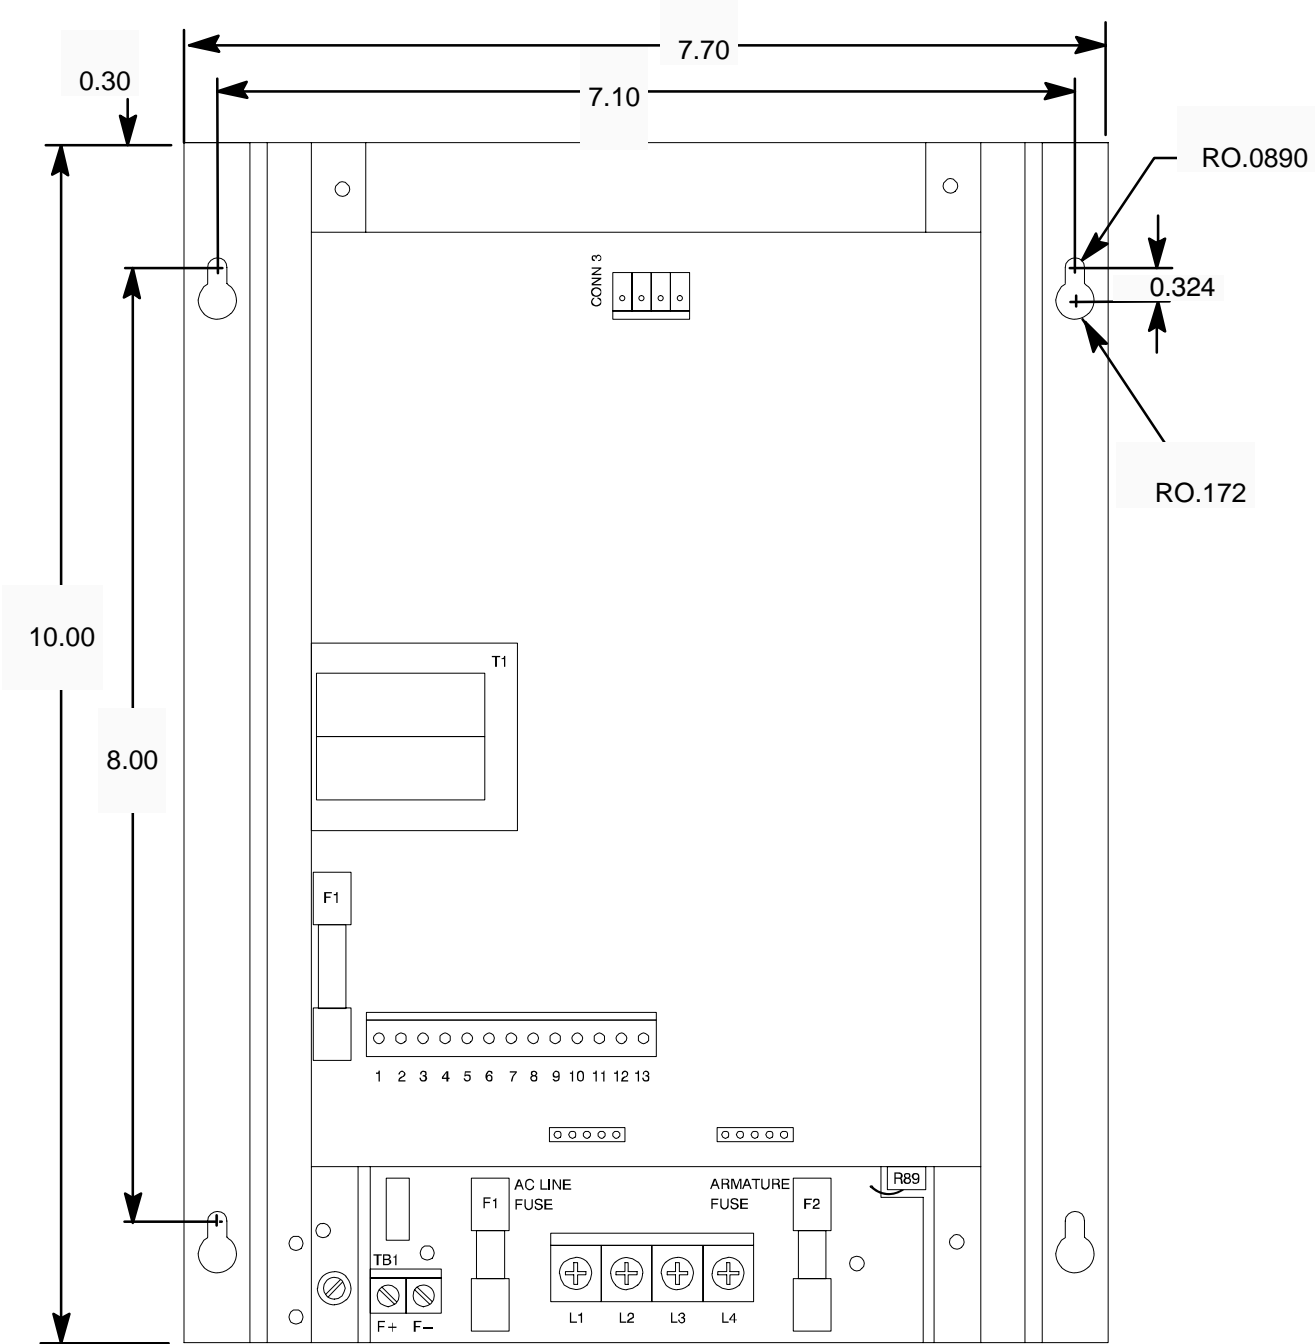

Fig. 3
2. Drill and tap (10–32 UNF) the lower left hand mounting hole to be located approximately 2" up from the horizontal 2"x 4" wireway and 2" to the right of the 3"x 4" vertical wireway. Locate the remaining holes using the mounting pattern shown in Fig. 3 Control Board Mounting Hole Locations.